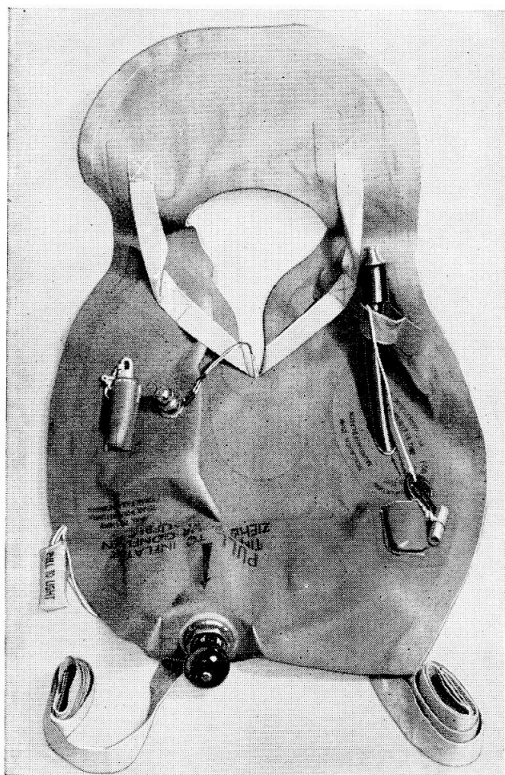
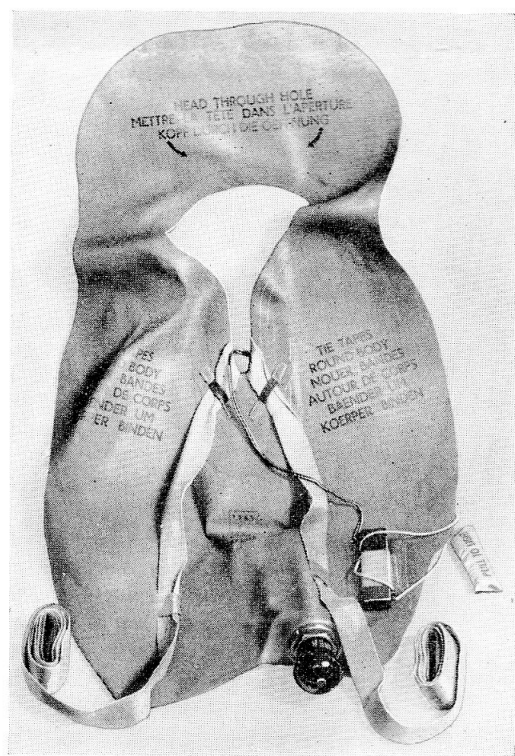

Fig. 2. Life jacket—front view
Fig. 3. Life jacket—rear view
2. The life jacket (*fig. 2 and 3*) is made from rubber fabric dyed traffic yellow.◀The flotation chamber covers the whole of the wearer's chest and extends behind the neck to form a headrest which keeps the head clear of the water.▶ A keyhole-shaped aperture enables the neck of the life jacket to be passed over the head, and tapes emerging from the bottom enable the lower edge to be secured to the wearer's body at waist level.
located inside the flotation chamber, fitted with a ◀V-type▶ operating head which protrudes from the right side at the bottom of the life jacket (*fig. 2*). Topping up is accomplished through an oral inflation tube located on the left-hand side of the jacket at chest level (*fig. 2*). The tube may be used for inflating the life jacket by mouth if the inflation mechanism fails.
4. On the right-hand side just below the shoulder is the pocket for the whistle and lanyard and the mounting for a lamp (*fig. 2*). A cable running from the lamp leads to a battery housed in a pocket on the right rear or body side of the jacket (*fig. 3*). The battery provides the power to light the lamp as soon as it comes into contact with water. The tab attached to the stud which plugs the inlet to the battery must be pulled to remove the plug as soon as possible after entering the water. The capacity of the battery is 20 hr.